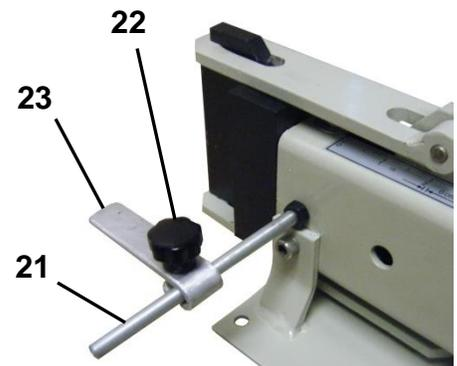

figure 2
3. The Piece Part Stop can be assembled to either side of the bending brake unit. Screw the threaded rod (#21) into the side of the unit and tighten the jam nut. Fig.2 shows it mounted to the left side.